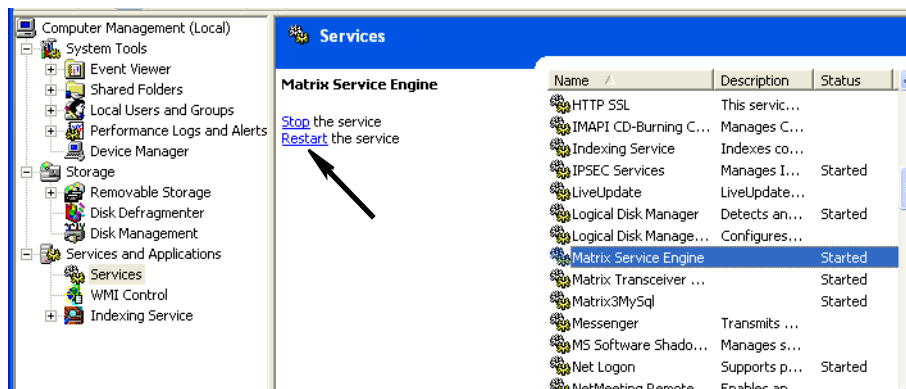

FIG. 43
- k. Click the Restart Service link (FIG. 43).